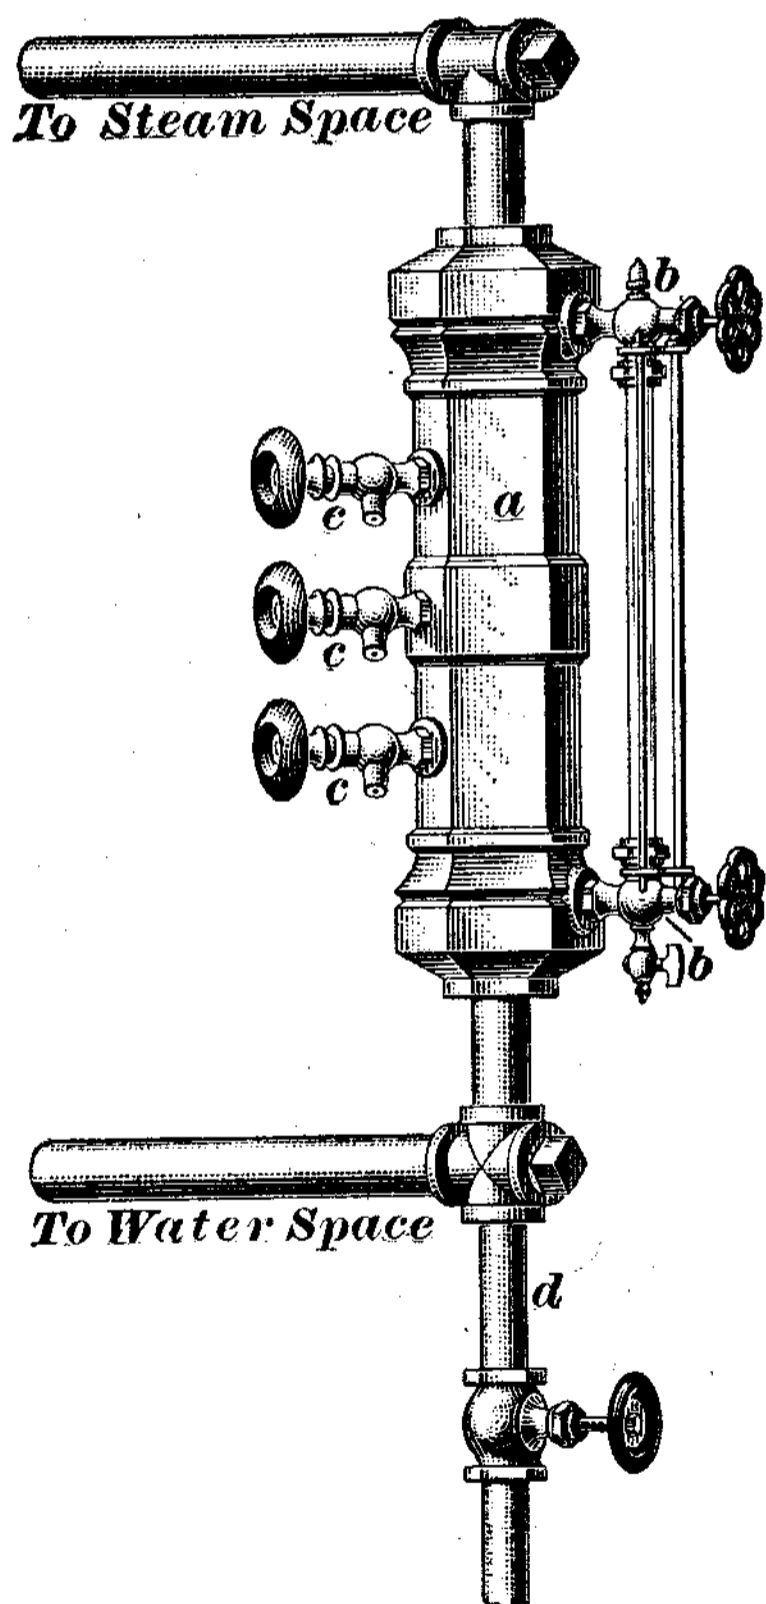

FIG. 12
21. A common form of water column is shown in Fig. 12. It consists of a cast-iron standpipe *a* tapped on top and bottom for pipe connections to the boiler. Tapped bosses are provided, which receive the threaded shanks of the gauge-glass fittings *b*, and the gauge-cocks *c*. Each maker has his own style of
22. The connection to the boiler should be made with a T on top and a cross on the bottom, as shown in Fig. 12, the